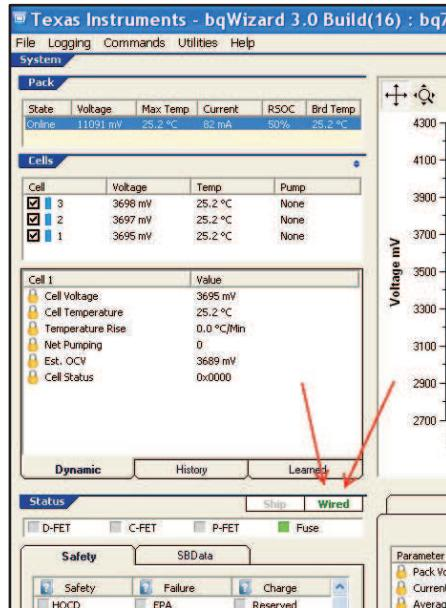

Figure 7. Wired Bit Status Display
1. The device must have its Wired bit set. This can be done by pressing the F7 key (see Figure 7). If the word "Wired" is green, then the bit is set.